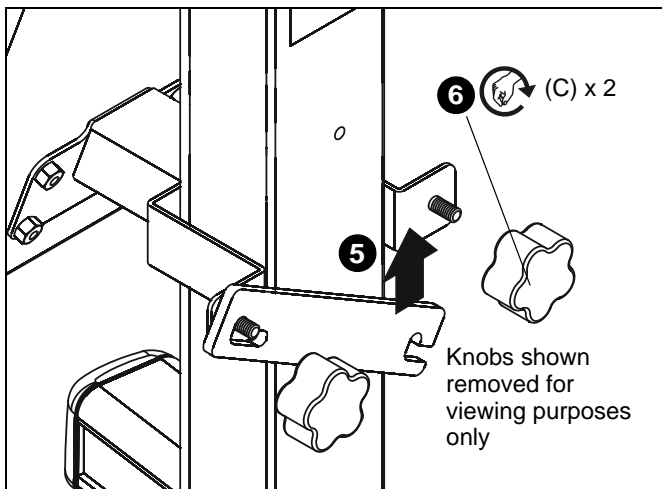

Figure 6
4. Position shelf column mount (B) around lower extrusion of cart/stand at desired mounting height. (See Figure 6)
5. Raise shelf bracket and hook over shelf's right stud. (See Figure 6)
6. Turn both knobs clockwise to tighten the shelf in place. (See Figure 6)